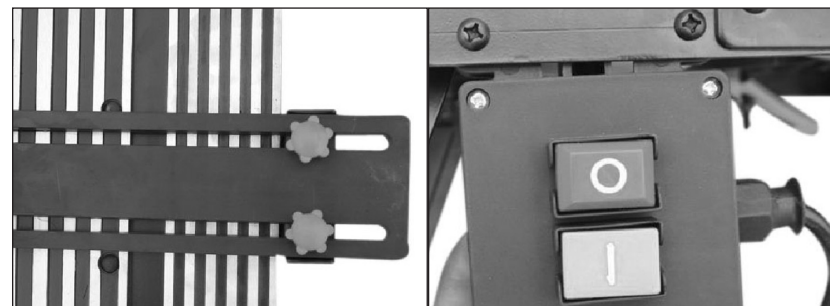

Fig.12 Fig.13
- Insert two coach bolts (M6X25) into the hole on guide for table pressure pad, and put table pressure pad on the two bolts, and secure it in position with washer and locking knob (Fig. 11 and Fig. 12)